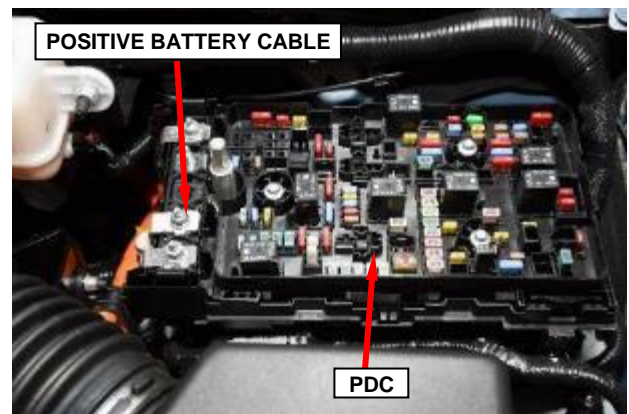

Figure 6 – Positive Battery Cable
13. Remove the nut securing the positive battery cable, then disconnect the positive battery cable from the 12 volt PDC (Figure 6).